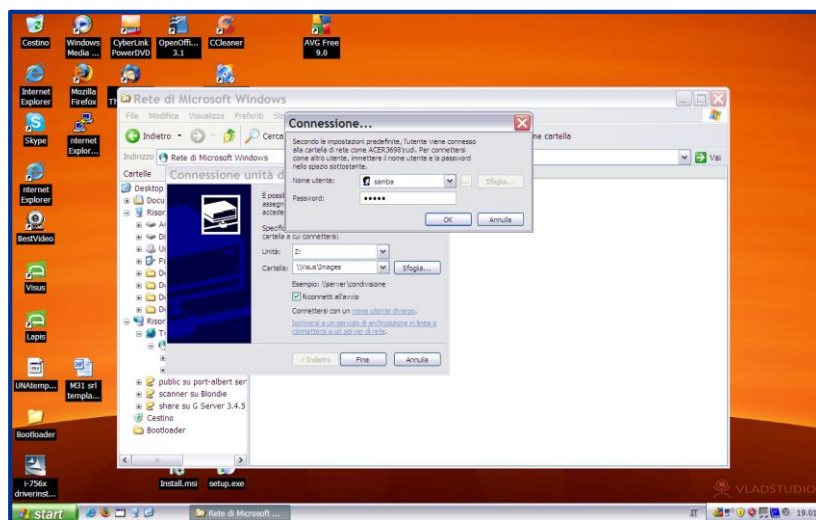

Figure 20.
1. Open "Visus Setting" menu: Visus/Tosca menu – "Manage" – "Settings", and key "Security" (Figure 20);